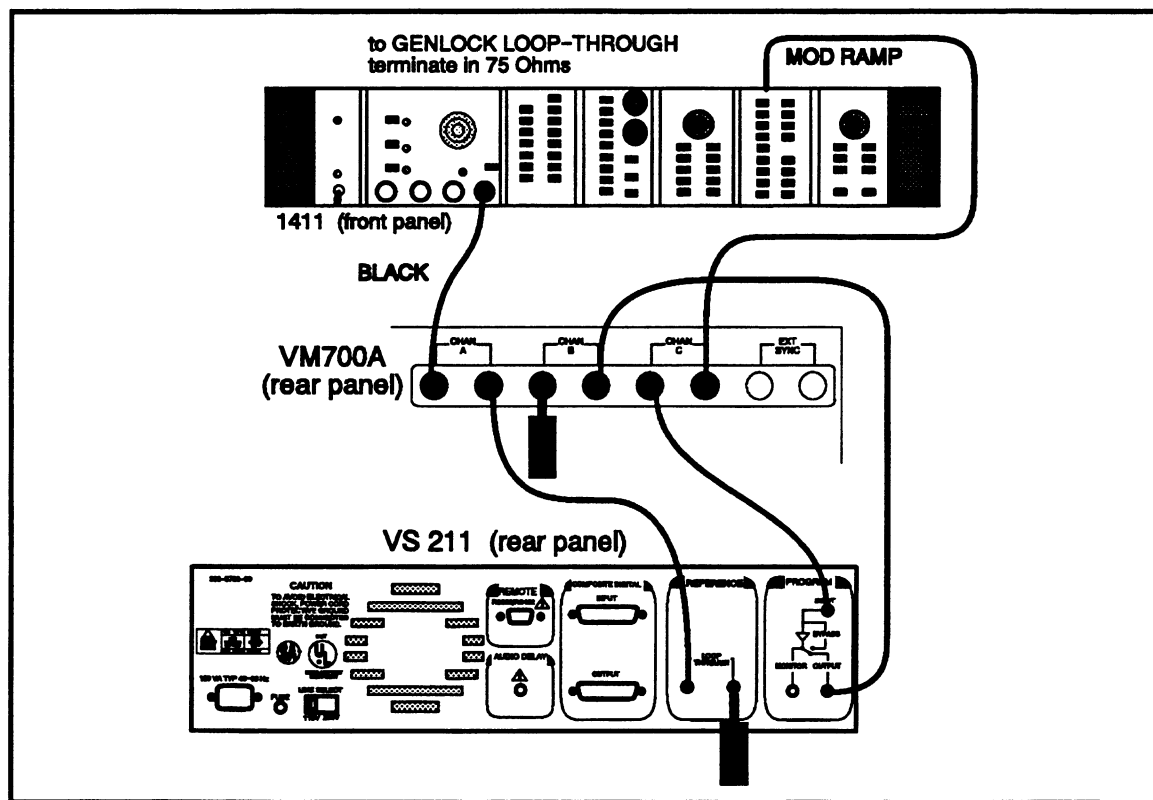

Fig. 4-1.
- a. Connect the test equipment as shown in Fig. 4-1.